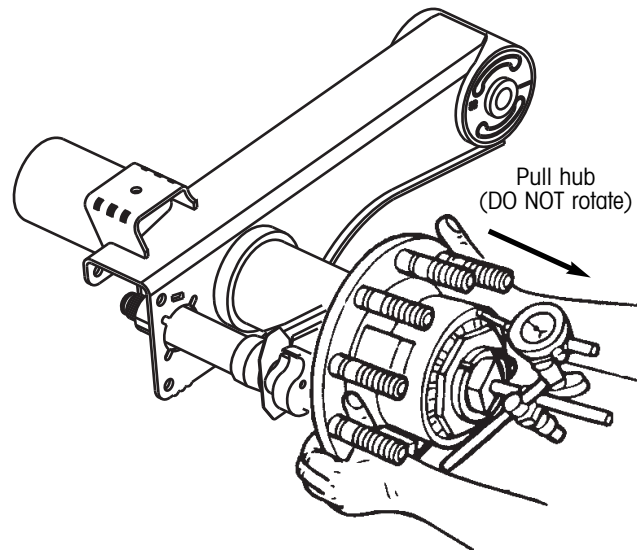

Figure 7. Pull the hub outward
5. Pull the hub outward until the dial indicator reading remains constant (figure 7). DO NOT rotate the hub.